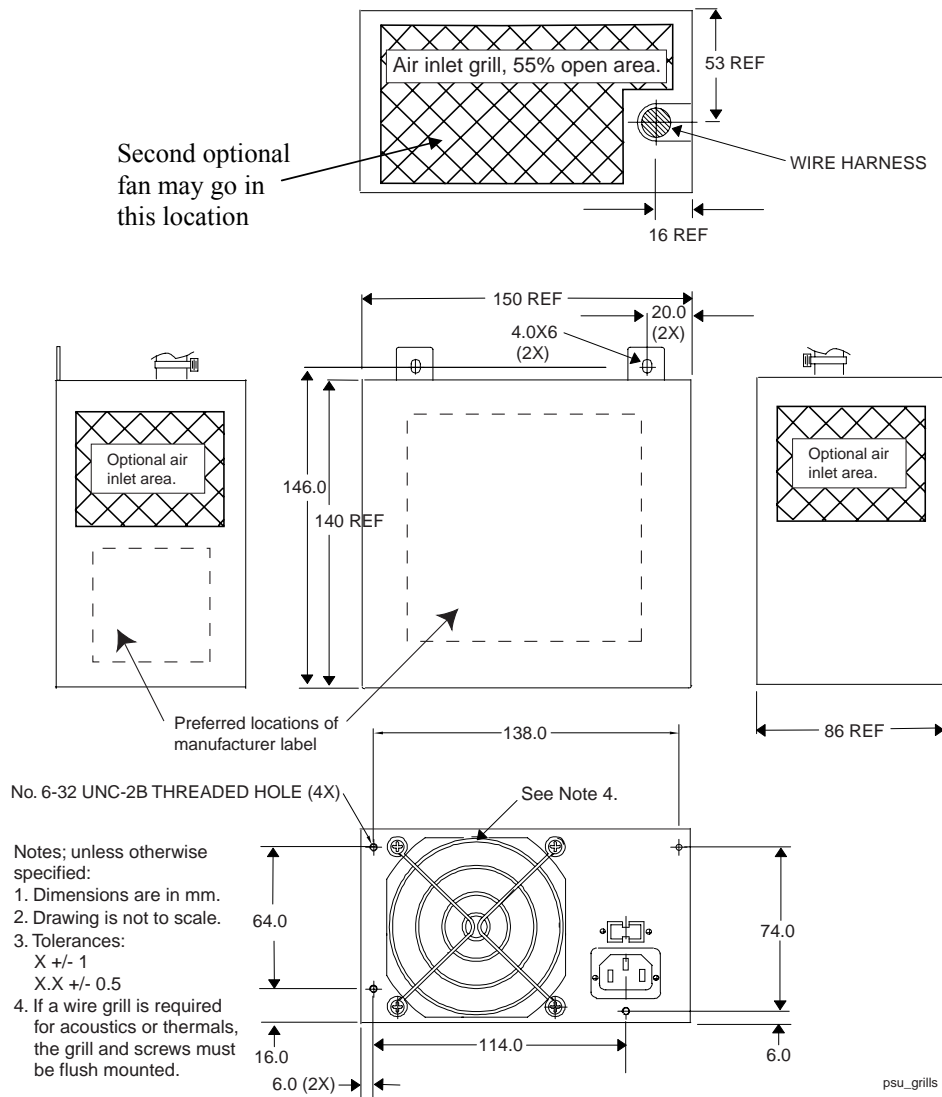

Figure 8. Power Supply Dimensions for Chassis That Does Not Require Top Venting
The supply shall be enclosed and meet the physical outline shown in either Figure 8 or 9, as applicable.
- The venting shown in Figure 8 provides the most effective channeled airflow for the power supply itself, with little regard for directly cooling any system components. This venting method is nearly always used in conjunction with a fan that exhausts out the rear of the power supply.